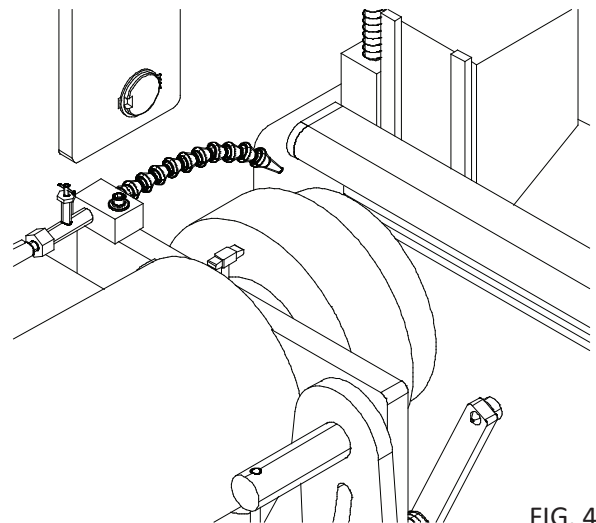

FIG. 46
**NOTE:** *The area of the grinding wheel that contacts the bedknife is on the left side of the wheel. When grinding the left end of the bedknife, the area of the wheel that doesn't contact the bedknife can remain over the bedknife. See FIG. 46. However, when you traverse to the right end of the Grinder, the wheel must come completely off the bedknife.*